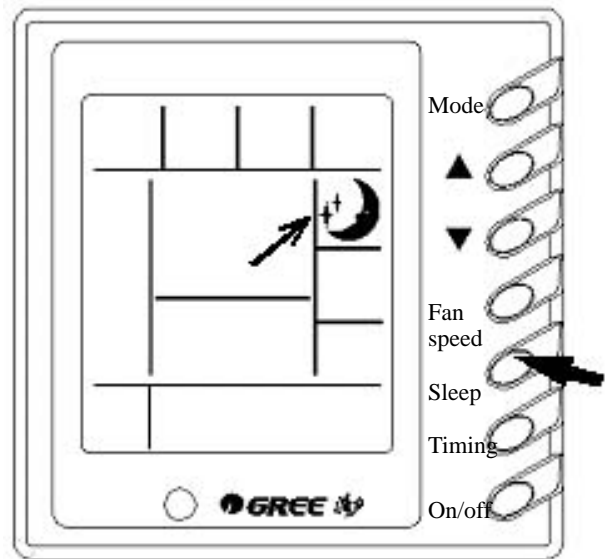

Fig 5
4) Sleep function setup (Fig 5)